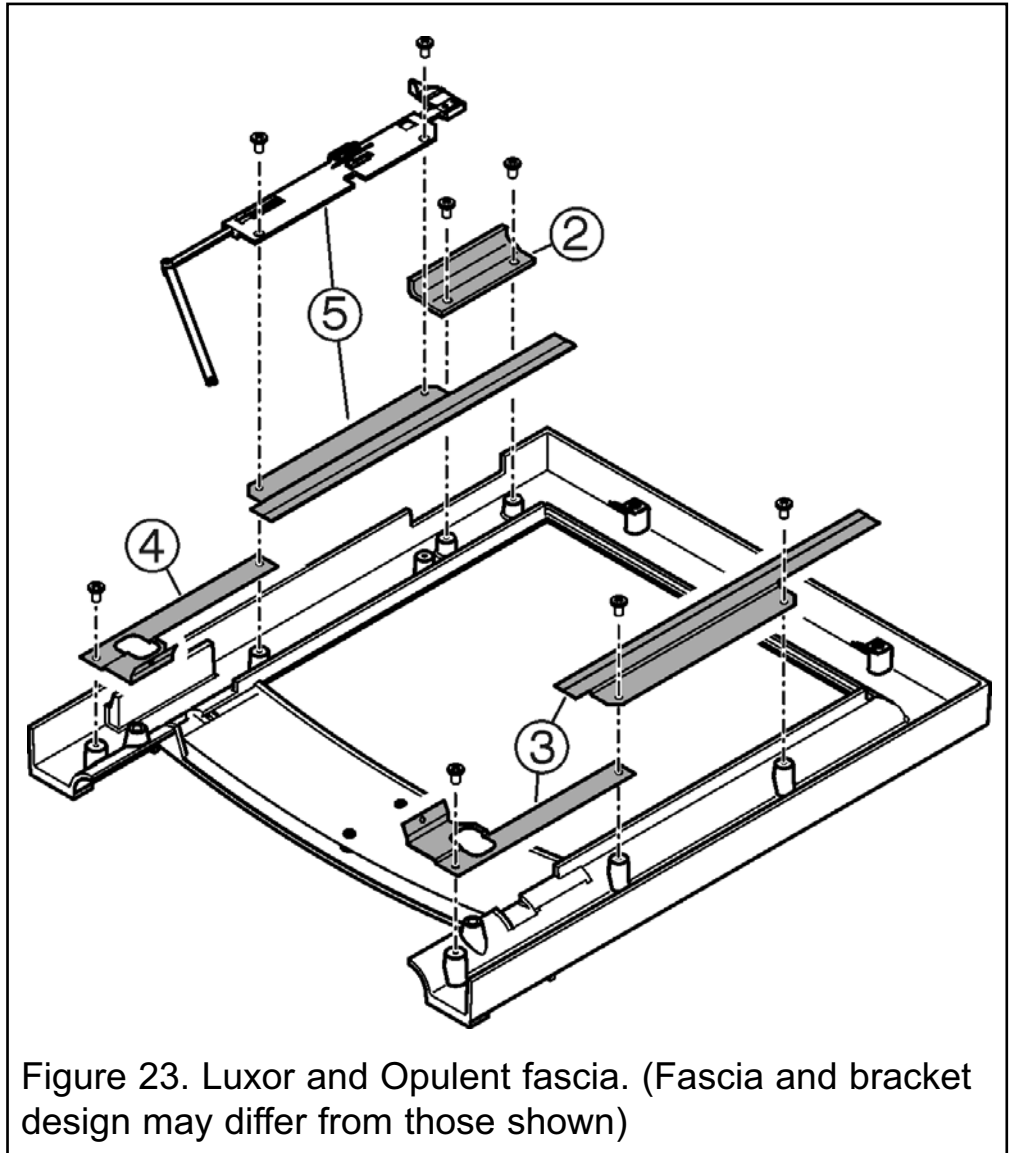

Figure 23. Luxor and Opulent fascia. (Fascia and bracket design may differ from those shown)
(See figure 23).
(See steps 3-5 in figure 23).
Step 2. Locate the lower right hand bracket and right hand side trim onto the fascia and secure with 3 off M5 x 10mm screws supplied (Point 3 in fig. 23).
Step 3. Locate the lower left hand bracket onto the fascia and secure through the lower hole with 1 off M5 x 10mm screw supplied (Point 4 in fig. 23).
Step 4. Locate the left hand side trim and slider control and secure with 2 off countersunk M4 x 10mm screw supplied (Point 5 in fig. 23).